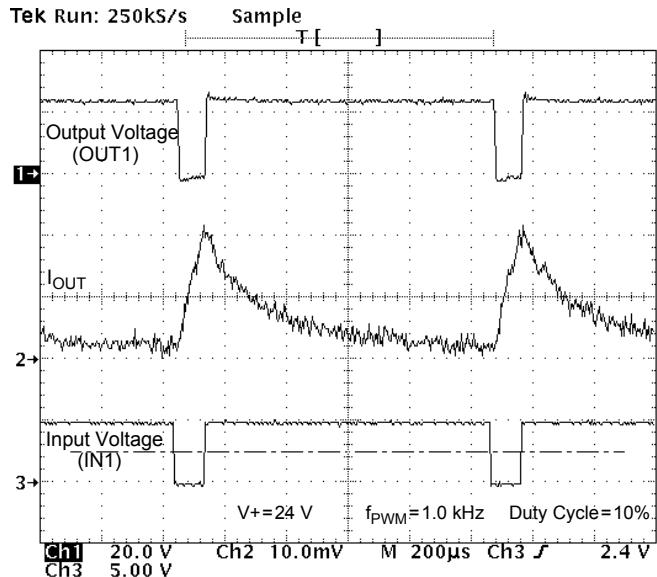

Figure 11. Output Voltage and Current vs. Input Voltage at V+ = 24 V, PMW Frequency of 1.0 kHz, and Duty Cycle of 10%
23. The outputs can be PWM-controlled from an external source. This is typically done by holding one input high while applying a PWM pulse train to the other input. The maximum PWM frequency obtainable is a compromise between switching losses and switching frequency. See Typical Switching Waveforms, Figures 11 through 18, pp. 15–16.